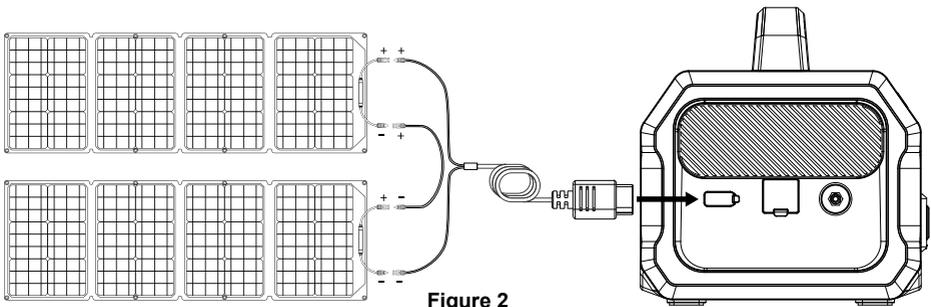

Figure 2
- As shown in Figure 2, connect the **MC4 cables** of two solar panels in series.